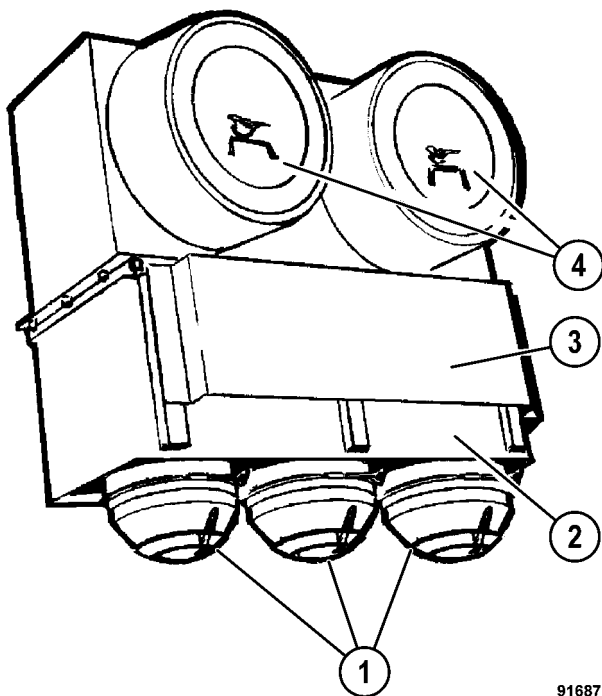

FIGURE 5-1. ENGINE AIR CLEANERS
The engine demand for air creates a vacuum in the air cleaners and causes outside air to be drawn in through air inlets on the air cleaners. Dirty air entering here is drawn through a series of tubes that are designed to produce a cyclonic action. As the air passes through the outer portion of the tubes, a circular motion is set up causing dust and dirt particles to be thrown from the air stream into dust collectors (1, Figure 5-1). At the same time, the air stream turns and is directed up through the center of the tubes into the filter chamber. Here the air passes through the main filter element and safety filter element and out the clean air outlet to the engine's air intake system. The function of the safety filter is to increase overall reliability and engine protection.
1. Turn off the engine. Clean any dirt and dust from the area around air cleaner element cover (4, Figure 5-1).
The tubes in precleaner section (2, Figure 5-1) should be cleaned at least once per year and at each engine overhaul. More frequent cleaning may be necessary depending upon operating conditions and the local environment.
1. Remove air intake cover (3, Figure 5-1). Remove the mounting hardware that secures the precleaner section to the air cleaner assembly. Remove the precleaner section. The safety filter element must remain in place to protect the engine intake.
2. Loosen the clamps and remove dust collector (1) from the precleaner section. Wash the dust collector with a water and liquid soap solution.